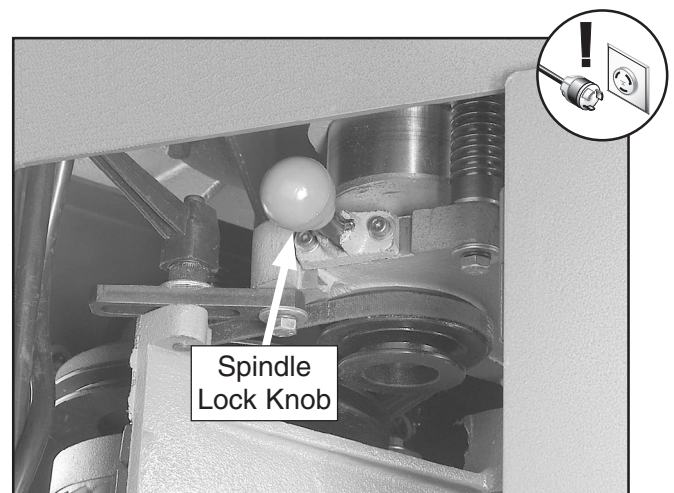

Figure 52. Spindle lock knob.
3. To keep the spindle from rotating during the following steps, open the cabinet door and pull the spindle lock knob out, then rotate it clockwise until it slips into the deeper of the two detents and the spindle no longer rotates by hand(see **Figure 52**).